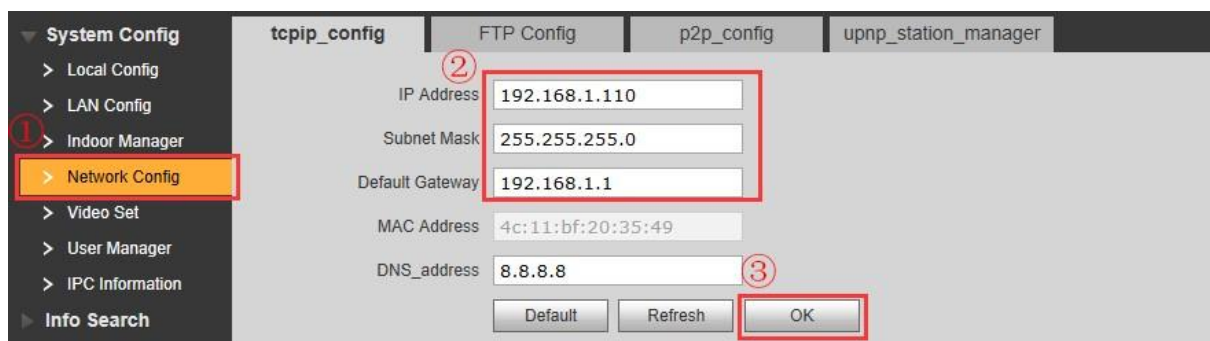

Figure 2-6
d) Set network information. See Figure 2-6.